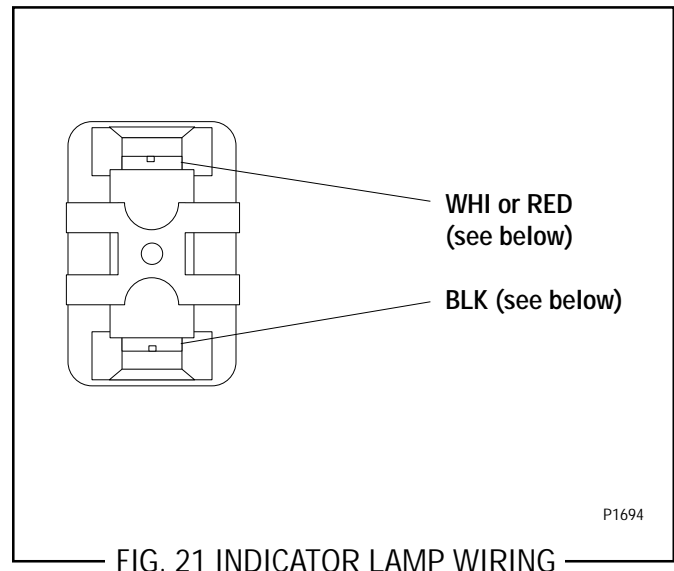

FIG. 21 INDICATOR LAMP WIRING
3. Refer to FIG. 21 when reconnecting the wires.